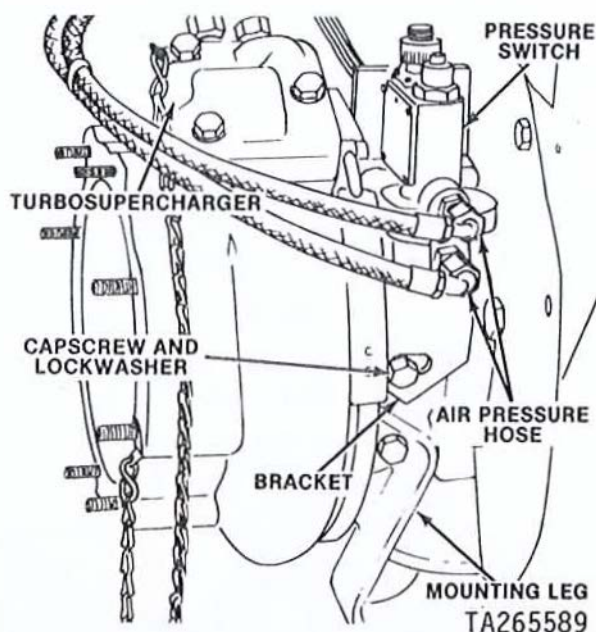

Figure 4-9. Removing or Installing Right Bank Dust Detector Pressure Switch
- (5) Disconnect and remove two air pressure hoses (fig. 4-9) from the right bank pressure switch and turbosupercharger. Remove capscrew and lockwasher and remove pressure switch and bracket, as an assembly.
(2) Install assembled pressure switch (fig. 4-9) and bracket on turbosupercharger mounting leg and secure with cap screw and lockwasher. Connect two air pressure hoses to pressure switch and turbosupercharger.